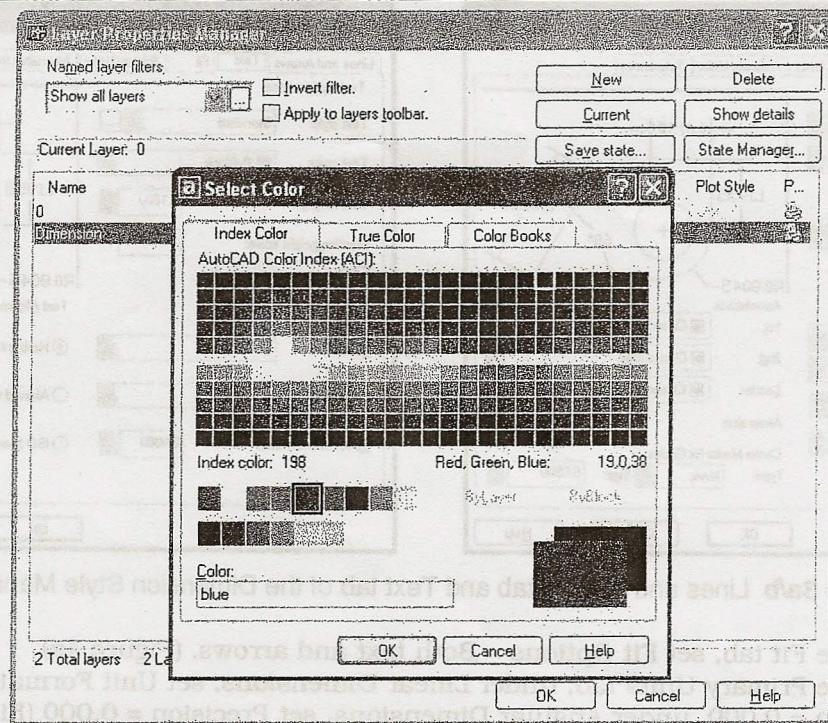

Figure 5 Select Color dialog of the Layer Properties Manager
6. Select the Layer Properties Manager tool in the Layers toolbar (Figure 5):